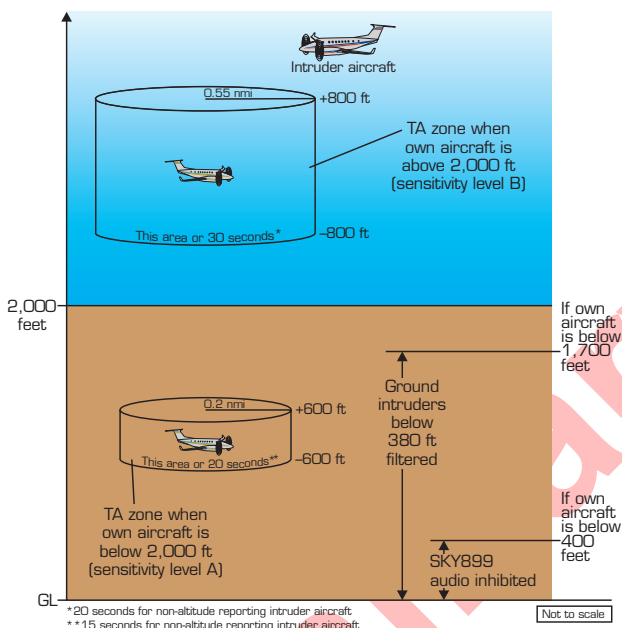

Figure 4-1. TA Zones If Your Aircraft Has a Radio Altimeter
1. The intruder aircraft enters into a cylinder of airspace surrounding your aircraft defined by a 0.2 nmi horizontal radius and a height of ± 600 ft from your aircraft. (See figures 4-1 through 4-3.)
1. The intruder aircraft enters into a cylinder of airspace surrounding your aircraft defined by a 0.55 nmi horizontal radius and a height of ± 800 ft from your aircraft. (See figures 4-1 through 4-3.)
1. Your aircraft has a radio altimeter and you’re below 400 ft AGL. (See figure 4-1.)
For intruder aircraft determined to be below 380 ft AGL, ground intruder filtering prevents the issuing of TAs and PAs, and prevents the display of OT symbols. (See figure 4-1.)